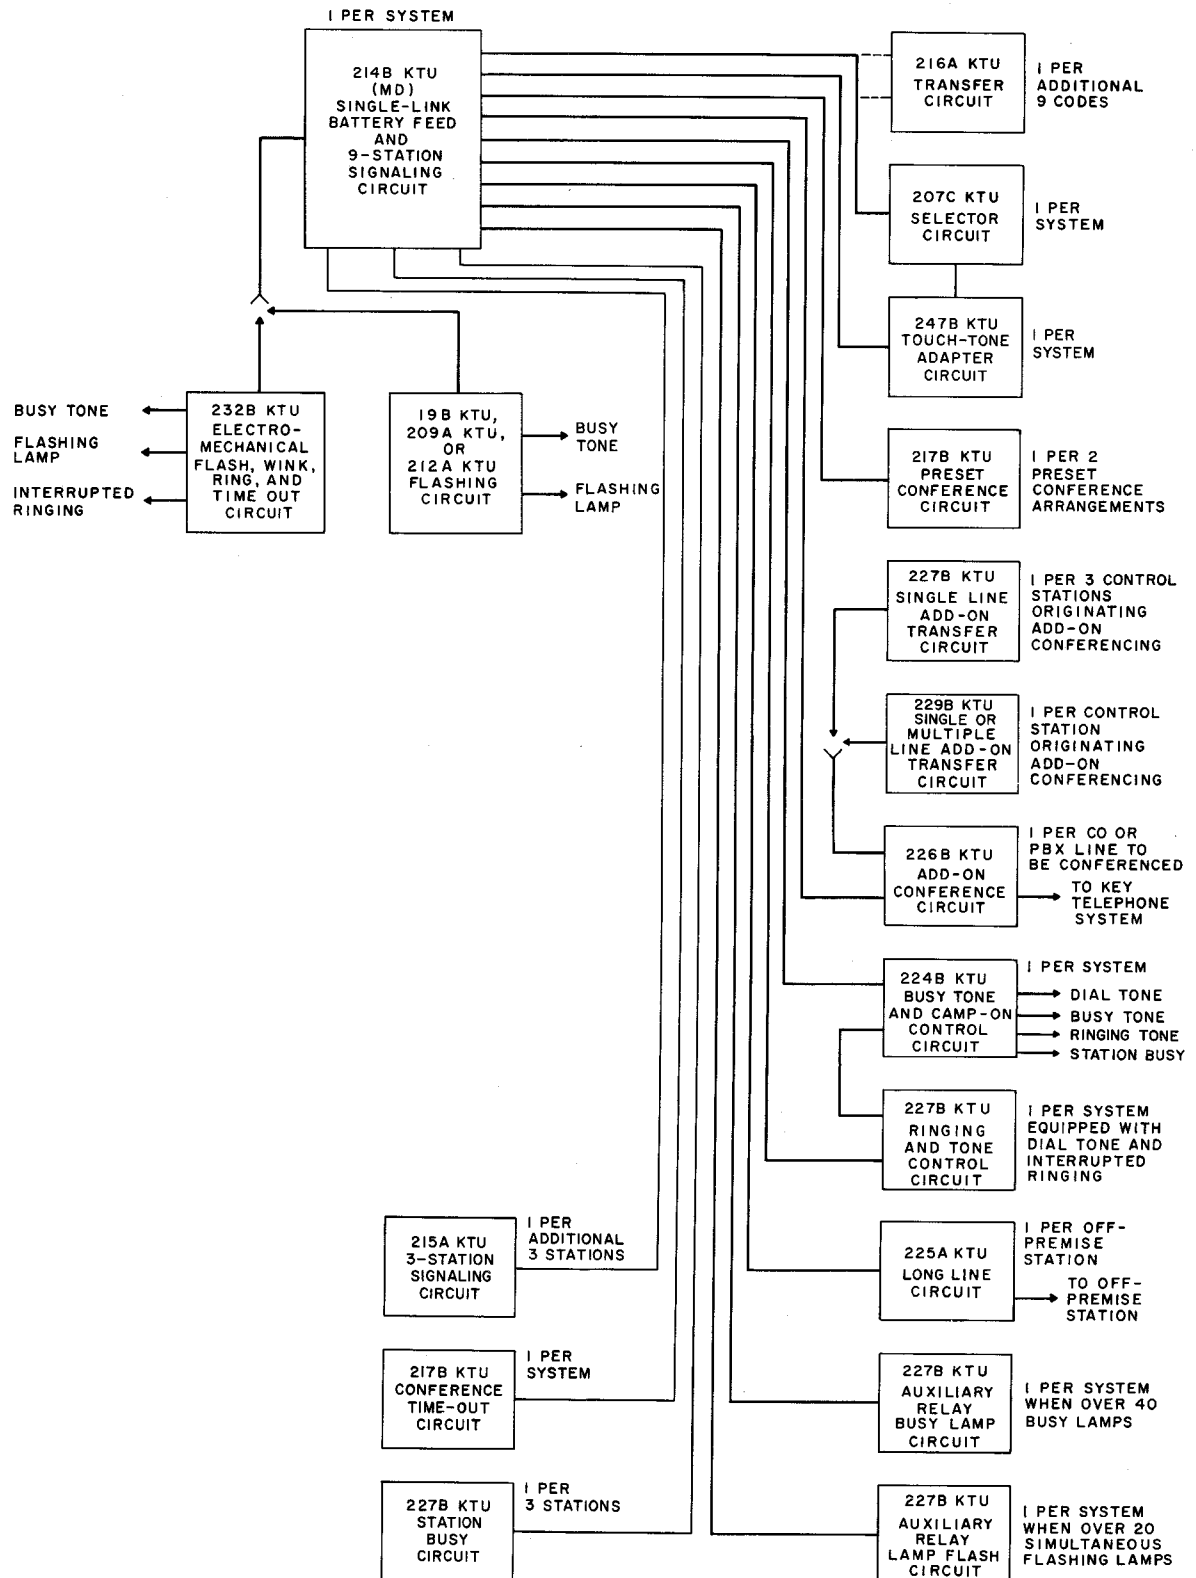

Fig. 2—Single-Link Arrangement Using 214B KTU (MD)
2.04 The single talking link arrangement (Fig. 2 or 3) provides for:
- (g) TOUCH-TONE dial station selection utilizing the 247A (MD) or B KTU.